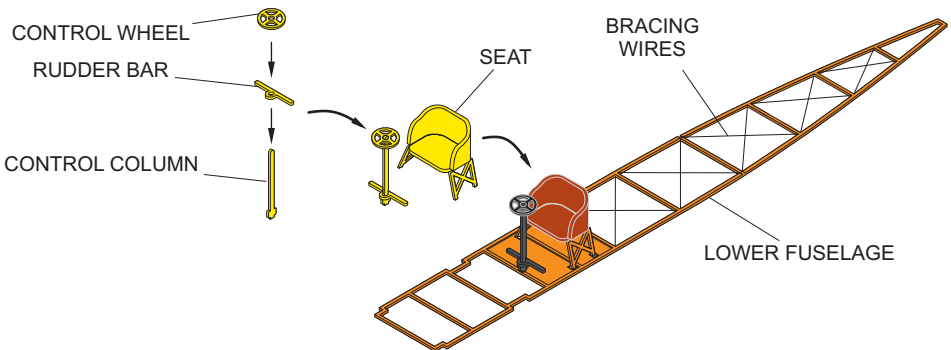

Figure 2
- B Fold the back and legs of the seat as shown (see Figure 2). Paint the seat to resemble leather and the legs as wood.